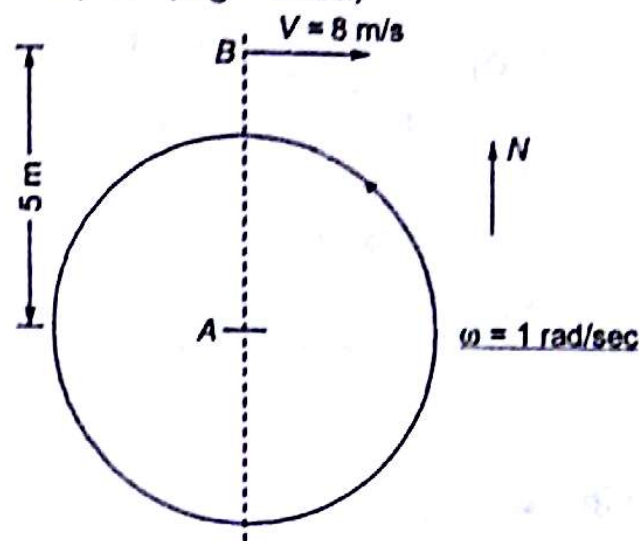

Fig. 12.22
- 12.7 As shown in figure, a person A is standing at the centre of a rotating platform facing person B who is riding a bicycle, heading East. The relevant speeds and distances are shown in given figure person, a bicycle, heading East. At the instant under consideration, what is the apparent velocity of B as seen by A? (Fig. 12.22)